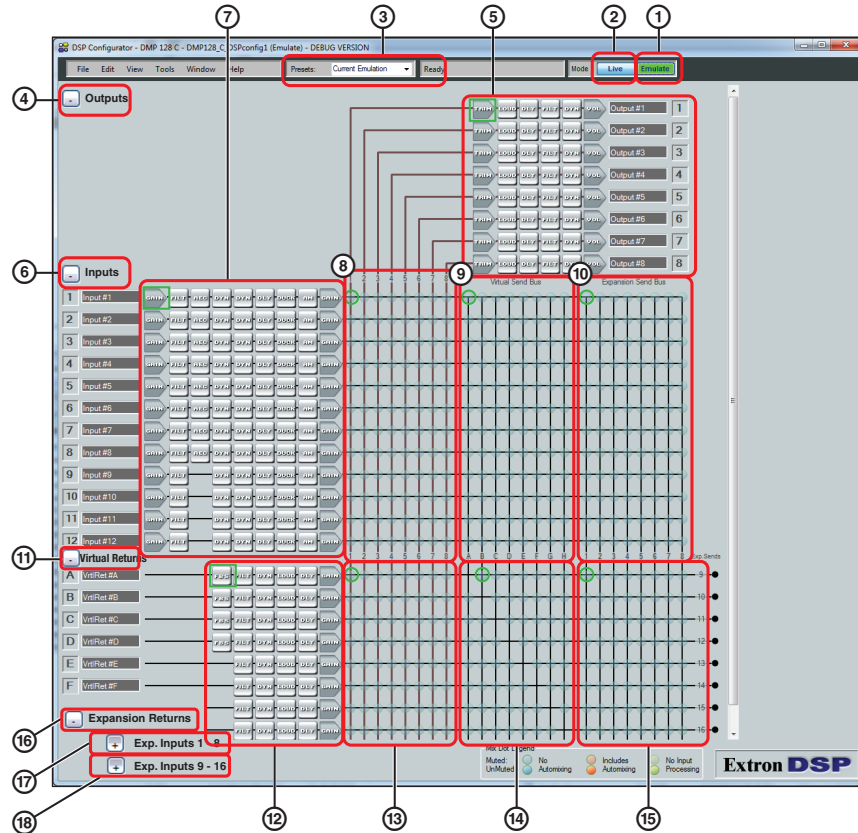

Figure 59. DSP Configurator Program
The <tab> control is used to toggle to the various sections outlined in red in figure 59. When the program starts, the cursor defaults to the Emulate button (ⓐ). When <tab> is pressed, the focus toggles to the next area in order outlined by red boxes in figure 59.
- **Arrow (←, →, ↑, and ↓) keys** — Navigate up, down, left, and right within any of the areas outlined in figure 59.